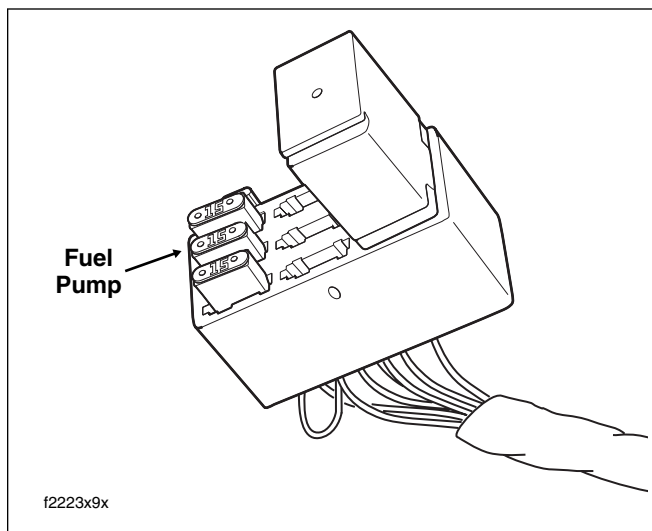

Figure 9-10. EFI Fuse Block
- a. Remove the 15 amp fuel pump fuse. See Figure 9-10. If necessary, see Section 9.2 ELECTRICAL BRACKET ASSEMBLY, EFI SYSTEM RELAY/EFI FUSES, REMOVAL.
12. Install the 15 amp fuel pump fuse. See Figure 9-10. If necessary, see Section 9.2 ELECTRICAL BRACKET ASSEMBLY, EFI SYSTEM RELAY/EFI FUSES, INSTALLATION.
14. Install the 15 amp fuel pump fuse. See Figure 9-10. If necessary, see Section 9.2 ELECTRICAL BRACKET ASSEMBLY, EFI SYSTEM RELAY/EFI FUSES, INSTALLATION.